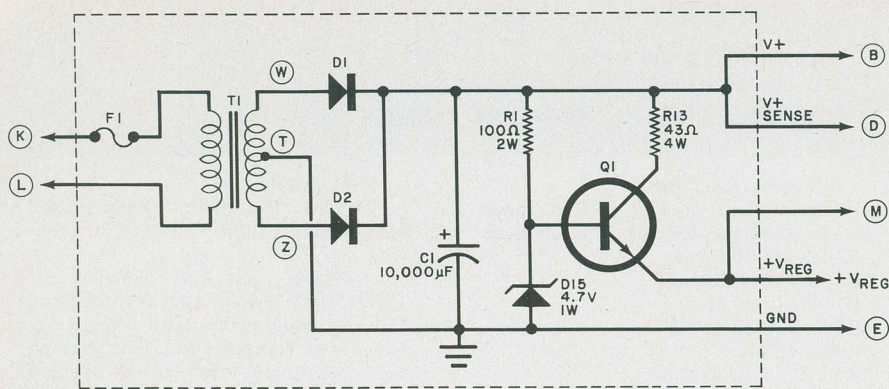

Fig. 3. This power supply can satisfy current demand of a complete Opdec system. Most of it fits on the Signal Processor's pc board.
**The Signal Processor** is shown schematically in Fig. 2. Among other things, it detects trigger signals from any of several motion sensors, decides if the sensor has in fact detected the movement of an intruder (rather than being triggered by lightning, a car passing in the night, or some similar phenomenon), generates exit and entry delays, automatically resets the system a few minutes after it has sounded the alarm, and provides optional closed-loop perimeter protection. Also included in the signal processor module is a power supply for the complete system. This supply is shown schematically in Fig. 3.